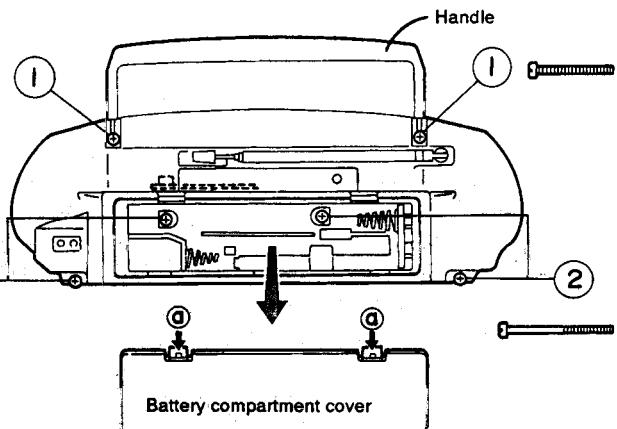

Fig. 2-1
(Figs. 2-1 to 2-4)
- At the rear of the main unit, press the two claws ① of the battery compartment cover downward to remove the battery cover (Fig. 2-1).
- Remove the two handle mounting screws ① and the four rear cabinet mounting screws ②. Then remove the front and rear cabinet assemblies (Fig. 2-1).